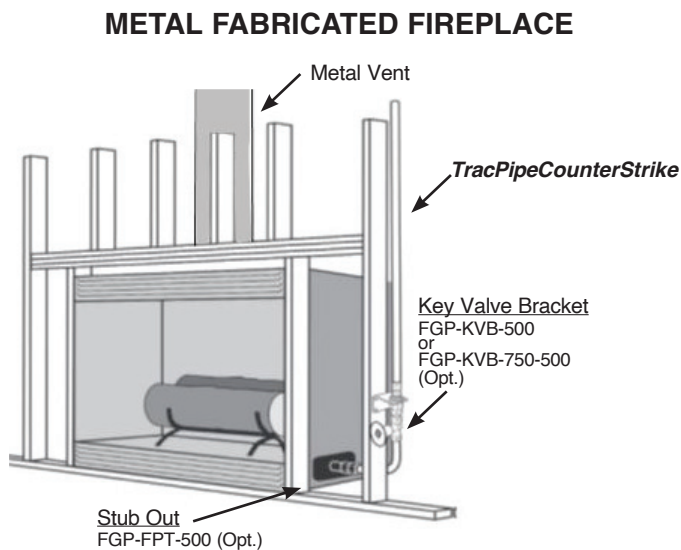

Figure: 4-44
1. TracPipe and TracPipeCounterStrike CSST shall not be directly routed into a metallic gas appliance enclosure utilizing a metallic vent which penetrates a roofline. The TracPipe and TracPipeCounterStrike CSST connection shall be made outside of the metallic gas appliance enclosure to a segment of rigid metallic pipe, a stub-out or a termination fitting (**Figure 4-44**).